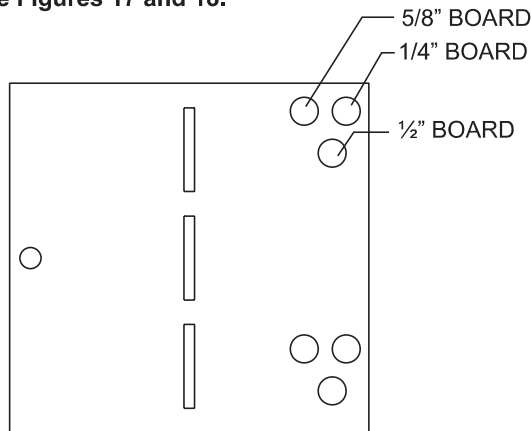
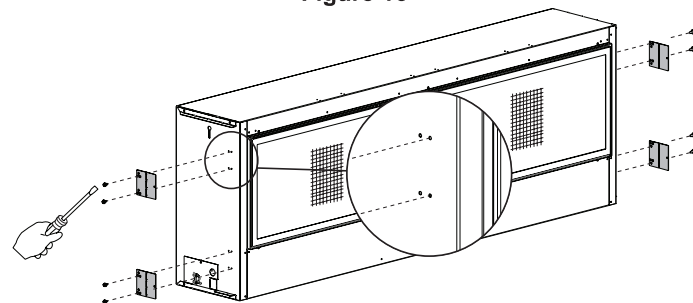

Figure 16
Figure 17 - OPTION 1
2. The holes in the nailing flanges allow for different thickness boards and depths of wall boards. See **Figure 16**. Install nailing flanges with two 10 x 1/2" screws (each) in pair of holes closer to the face of the fireplace. Leave the nailing flanges flat until after the fireplace is lifted into the framing. See **Figures 17 and 18**.